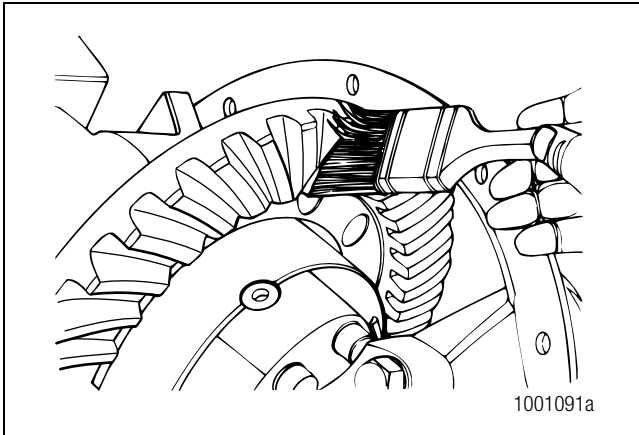

Figure 5.68
- Apply a marking compound onto approximately 12 gear teeth of the ring gear. Rotate the ring gear so that the 12 gear teeth are next to the drive pinion. Figure 5.68.